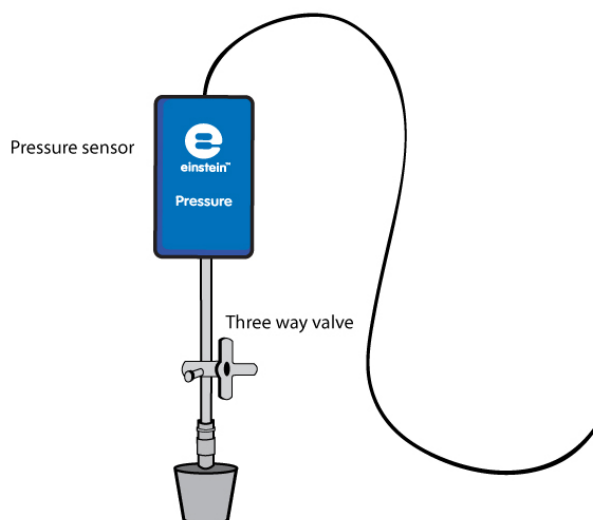

Figure 2
- a. Insert a syringe extender into each stopper (Figure 2).